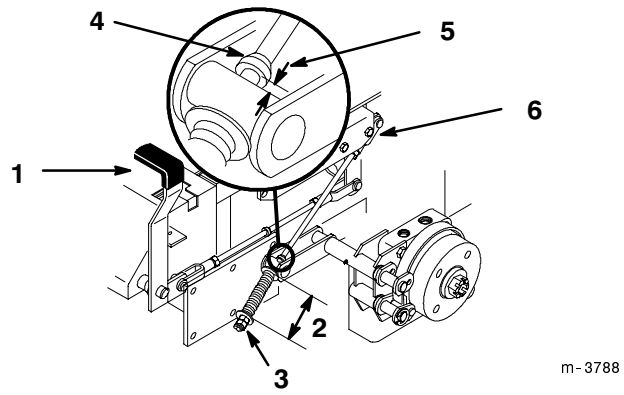

Figure 56
2. Measure the length of the spring. Measurement should be 2.75 in. (70 mm) between washers (Fig. 56).
3. If adjustment is necessary, loosen the jam nut below the spring and tighten the nut directly below the yoke (Fig. 56). Turn the nut until the correct measurement is obtained. Tighten the two nuts together and repeat on opposite side of unit.
- A. Measure the distance between the trunnion roller and the collar on brake rod. Measurement should be 3/16-1/4 in. (5-7 mm) (Fig. 56).
6. If adjustment is necessary, loosen the jam nut directly below the yoke. Turn the bottom rod until the correct measurement is obtained (Fig. 56). Tighten jam nut at yoke